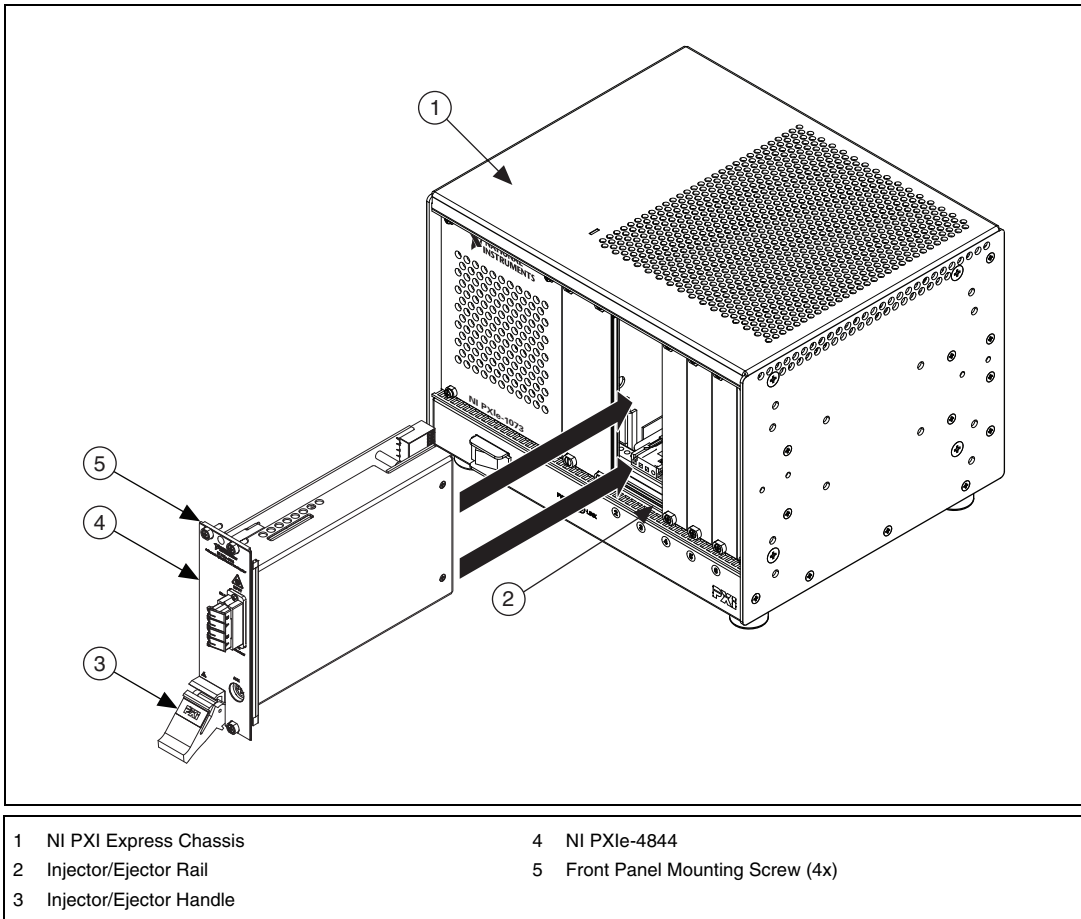

Figure 2. Sliding the NI PXIe-4844 into the Chassis
9. Hold the injector/ejector handle down as you slowly slide the module into the chassis until the handle catches on the injector/ejector rail, as shown in Figure 2.